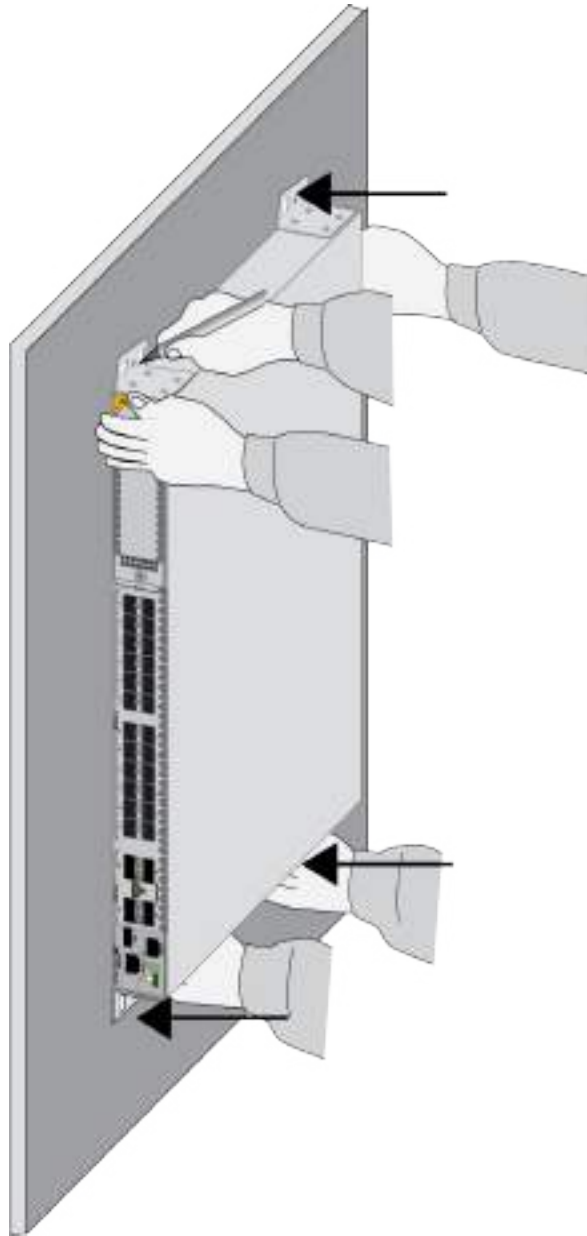

Figure 76. Marking the Locations of the Bracket Holes on a Concrete Wall
3. Have two people hold the switch on the concrete wall at the selected location for the device while you use a pencil or pen to mark the wall with the locations of the four screw holes in the four brackets. Refer to Figure 76 on page 128.